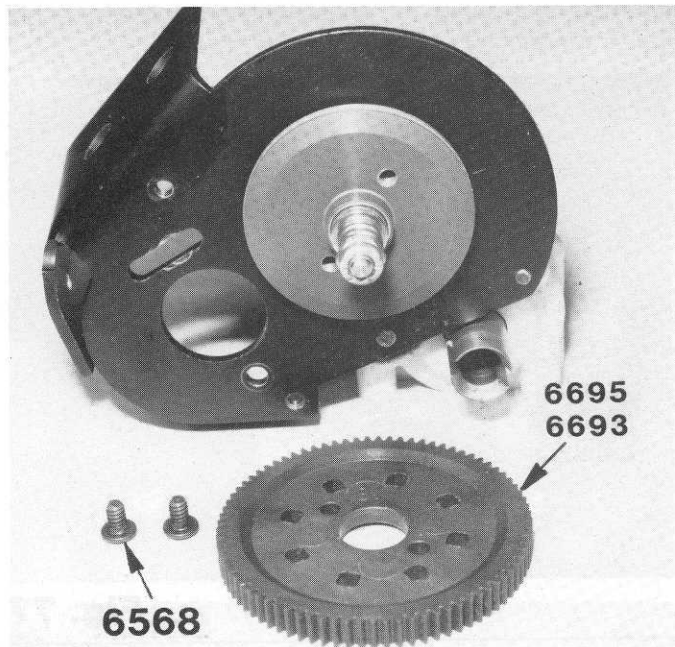

Fig. 75
□ **Figs. 75 & 76** Deburr the center hole and mount the # 6695 87 tooth 48 pitch spur gear from Bag 7-15 with the two #6568 4-40 x 3/16" button head mounting screws from Bag F. NOTE: your #6695 spur gear may be white.